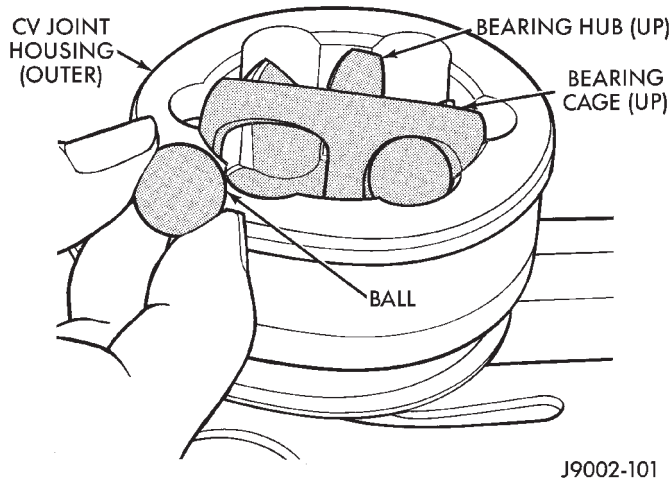

Fig. 12 Ball Removal
(5) Place the stub shaft in a soft-jawed vise to avoid damage to the shaft splines.
(6) Press down on one side of the bearing cage/hub to tilt the cage. This will provide access to a ball at the opposite side of the cage. If the CV joint is tight, use a hammer and brass drift to loosen the bearing hub. **Do not hit the bearing cage with the drift.**
(7) Remove the ball from the bearing cage (Fig. 12). If necessary, a small pry bar can be used to pry the ball loose from the cage.